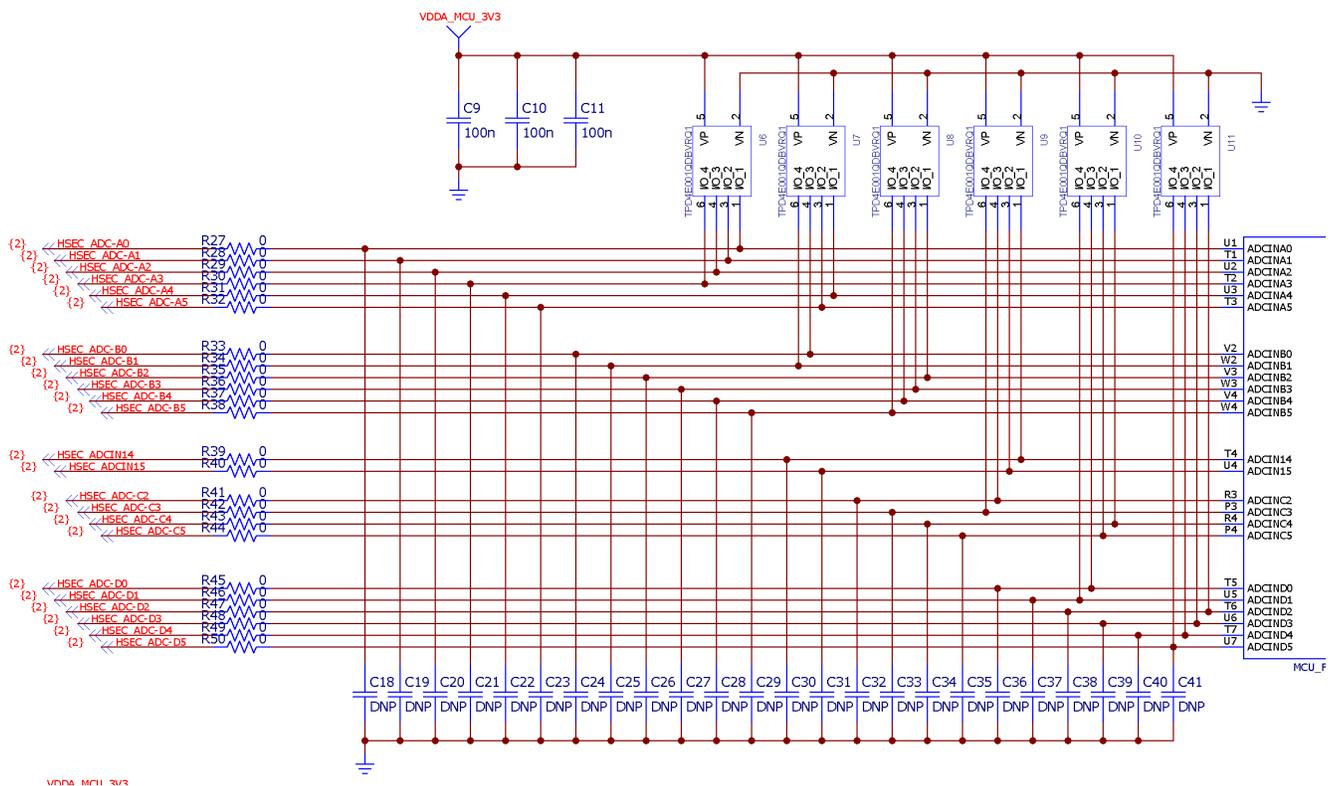

Figure 4. Partial Schematic Showing Default R and C values
On-board resistors and capacitors: By default (Figure 4), all inline resistors to the ADC pins are a simple 0-Ω shunt and all capacitors to the ground plane are not populated. While this circuit can be used to supply the ADC inputs with a voltage, likely both the resistor (R) and capacitor (C) will need to be populated based on the voltage source's characteristics. Referring to the *ADC Input Model*, the ADC input has its own RC network made up of the internal sample and hold capacitor, switch resistance, and parasitic capacitance. By changing the inline resistance and parallel capacitor, the input circuit can be optimized to assist with settling time and/or filtering the input signal. Finally, it is recommended in general to use either Negative-Positive 0 PPM/°C (NPO) or Ceramic On Glass (COG) as these have better stability over temperature and across input frequencies than other types of capacitors.